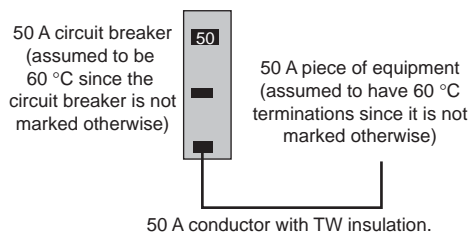

Figure 3: Conductors Rated 60 °C
- Conductors rated 60 °C (see Figure 3).